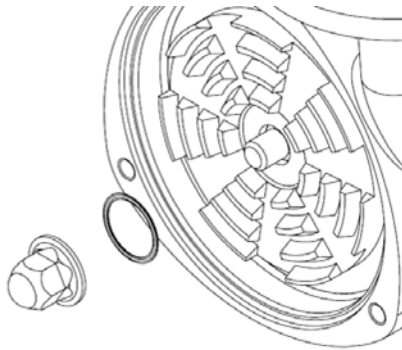

Figure 16
8. Install the impeller nut and impeller nut gasket, Figure 16 .